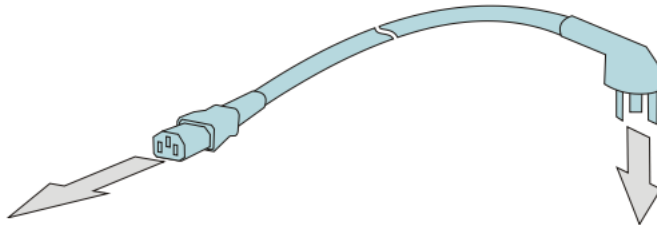

Figure 33: Connect the power supply
- ☐ Connect the power supply cable, see Figure 33.